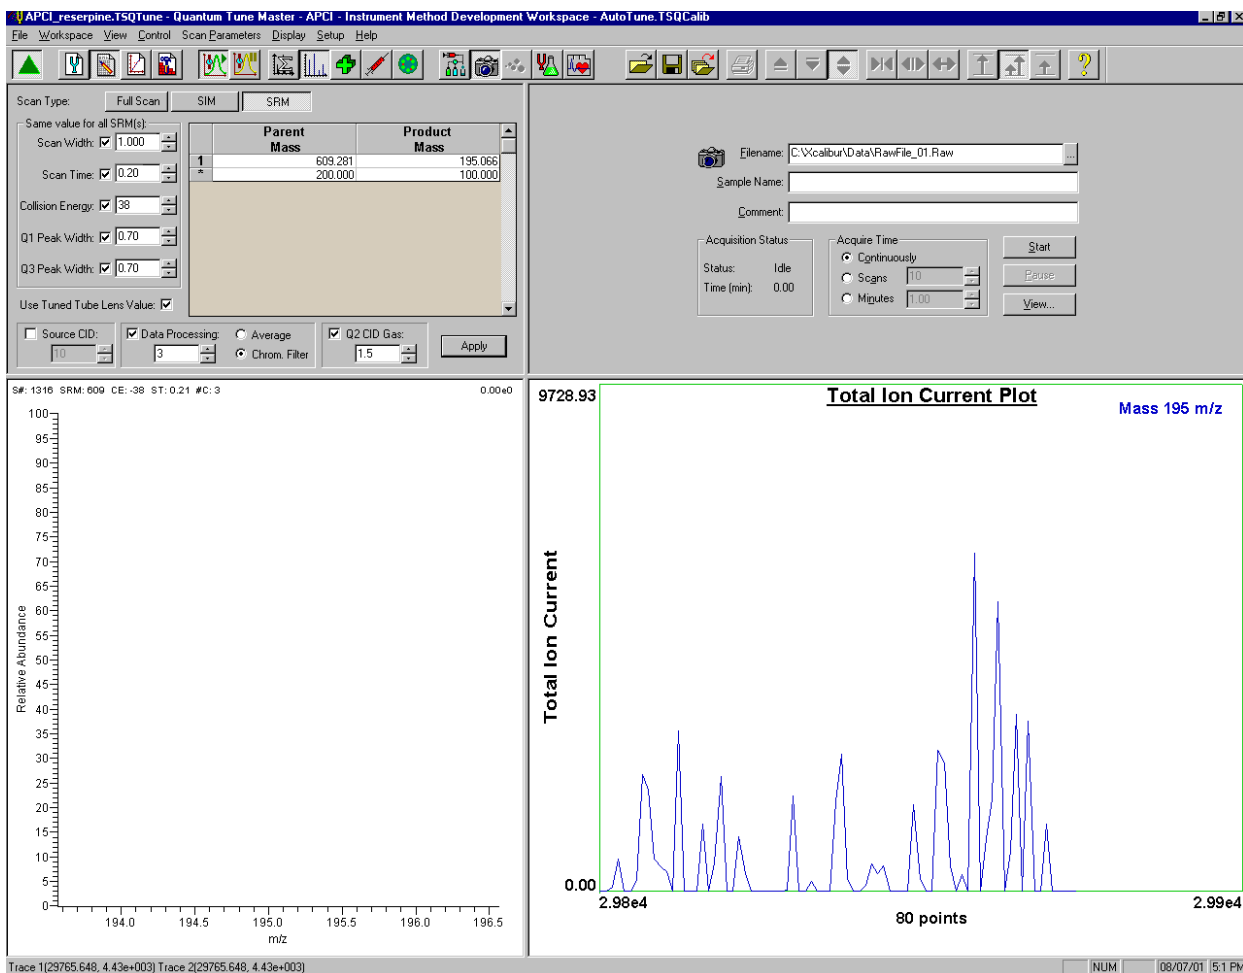

Figure 8-9. Instrument Method Development workspace, showing SRM scan type
7. On the Control / Scan Mode toolbar, click on the Display TIC button to begin recording the total ion current in the Graph view in the bottom right corner of the workspace. See Figure 8-9.